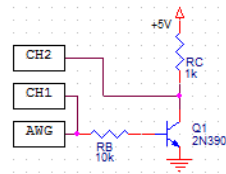

Figure 69: Amplifier circuit
- 1) Build the circuit shown on figure 69.